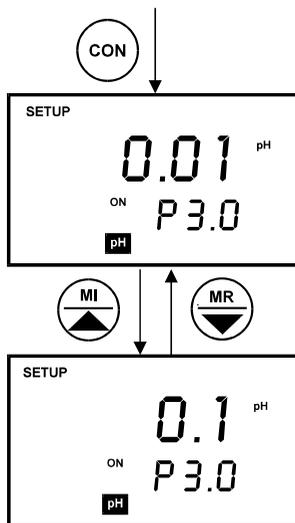

Figure 33: Setting pH resolution
1. Use MI/▲ or MR/▼ keys to select the resolution desired. See Figure 33.